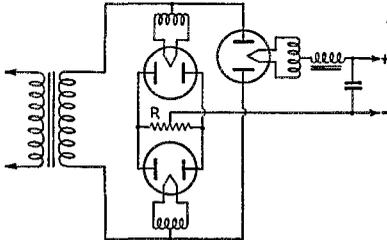

Fig. 3 — Simple arrangement for balancing load of four rectifier elements in bridge circuit using Type 83's.
**LEWIS KOHLER, W2HRM**, reports that the simple arrangement shown in Fig. 3 works out successfully in balancing the load with Type